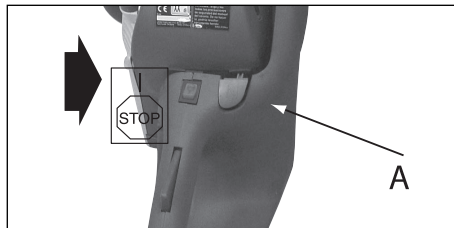

Fig. 9A
1. Press ON/OFF switch to the ON (I) position for starting. (Fig. 9A)